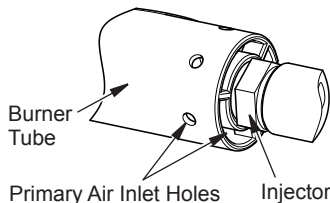

Figure 26 - Burner and Injector Holder
2. Inspect burner, pilot and primary air inlet holes on injector for dust and dirt (see Figure 26).